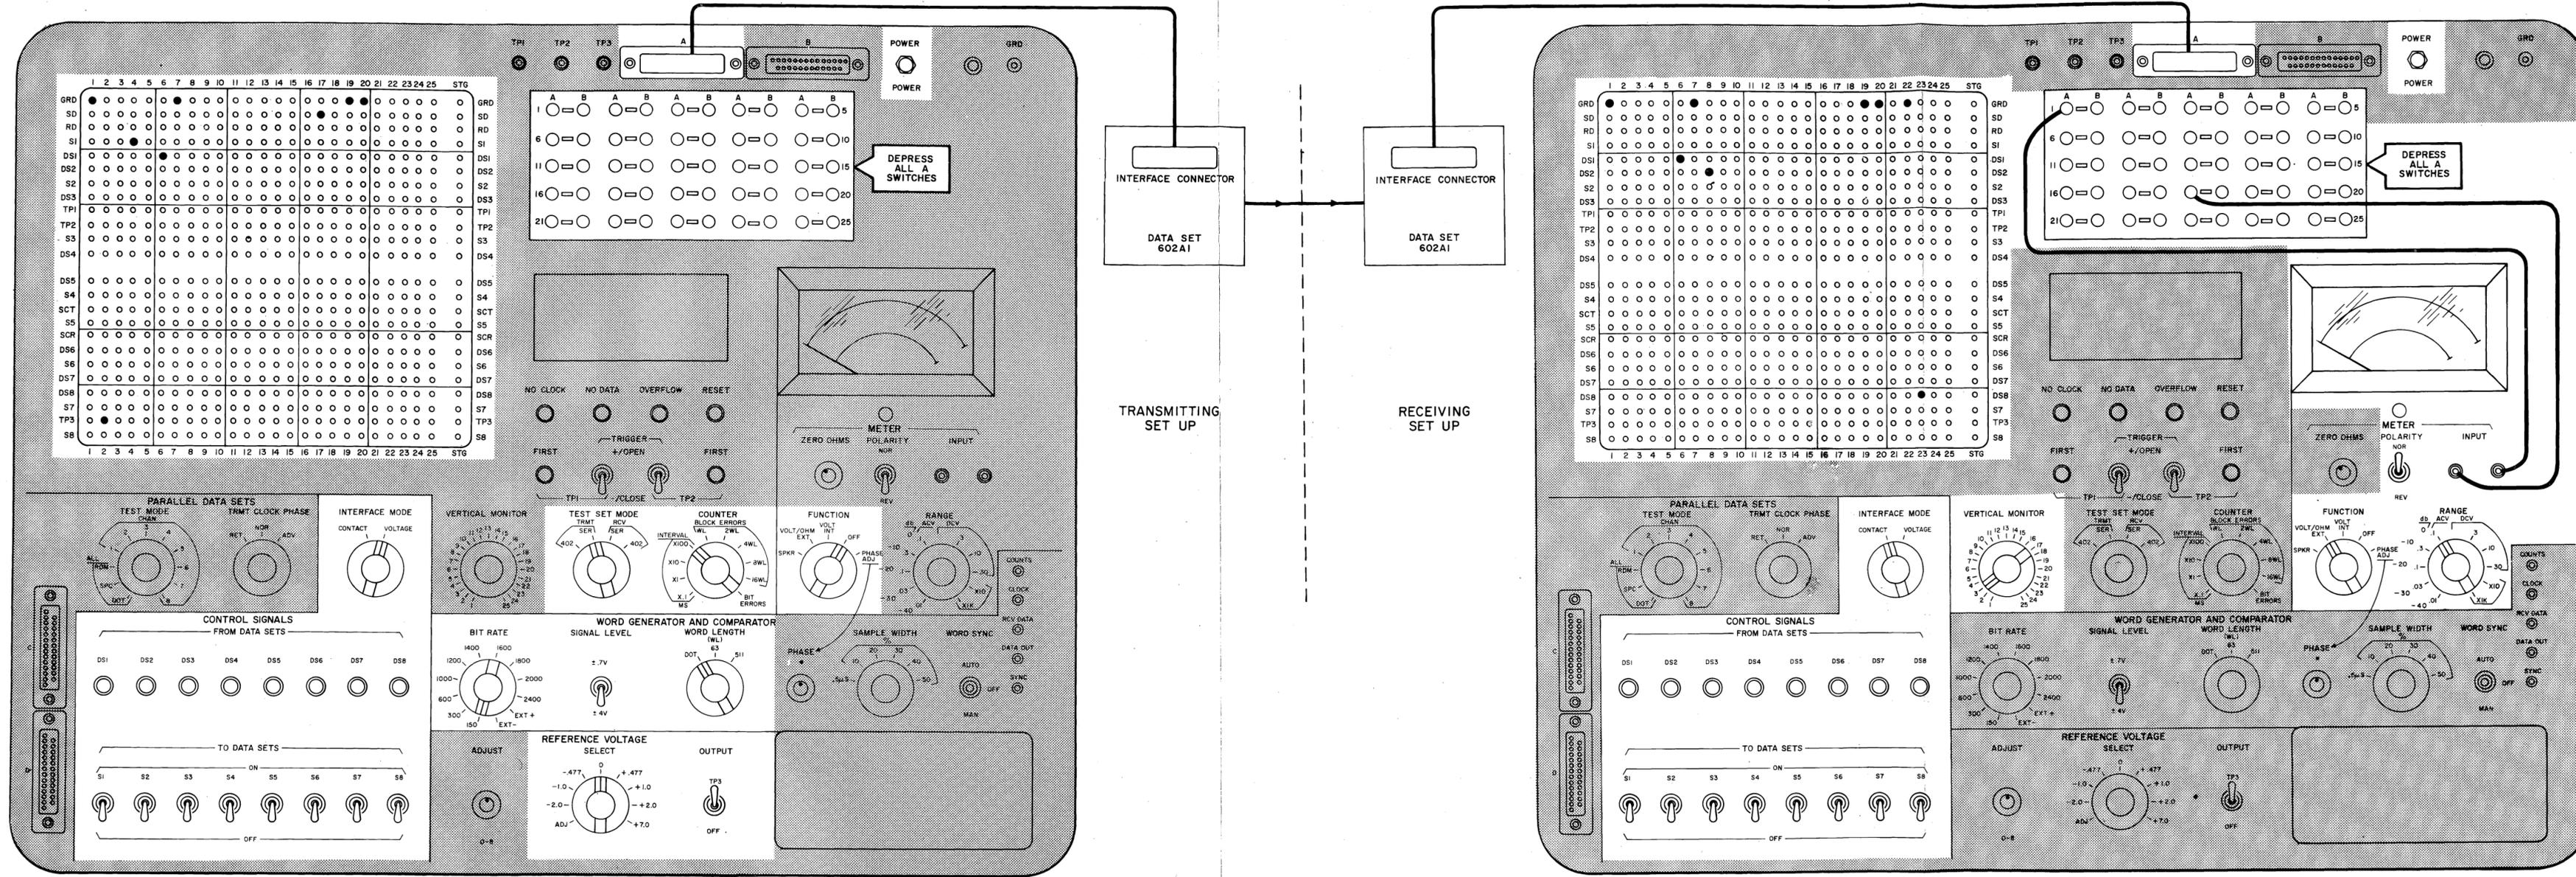

Fig. 4—Test Connection Diagram, End-To-End Test 914B Data Test Set Method
**3.14** Figure 4 is a test connection diagram showing the equipment required to perform an end-to-end test of Data Set 602A1 using the 914B DTS.
1	Connect the equipment as shown in the test connection diagram (Fig. 4).